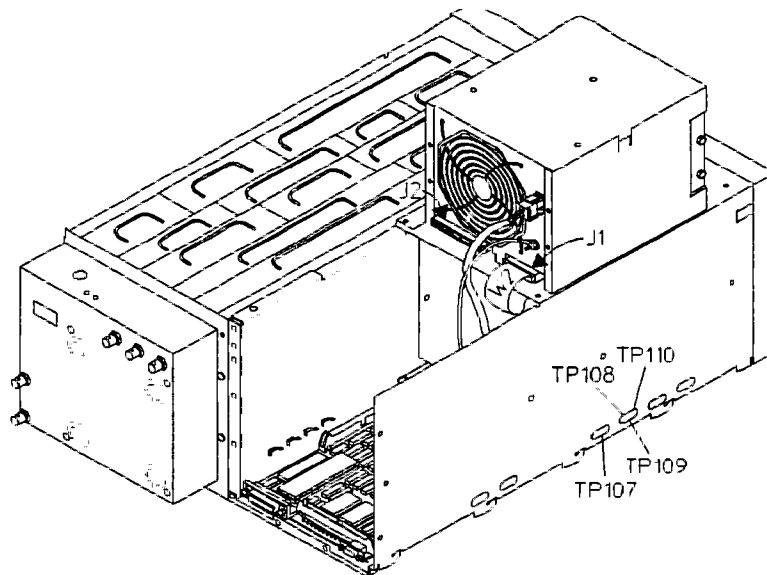

Figure 4-7. Memory Test Locations
2. Set the power switch to ON (I). Using a logic probe, check that the signals listed in table 4-6 are toggling (see figure 4-7). If the signals are toggling, the Memory assembly is probably faulty.